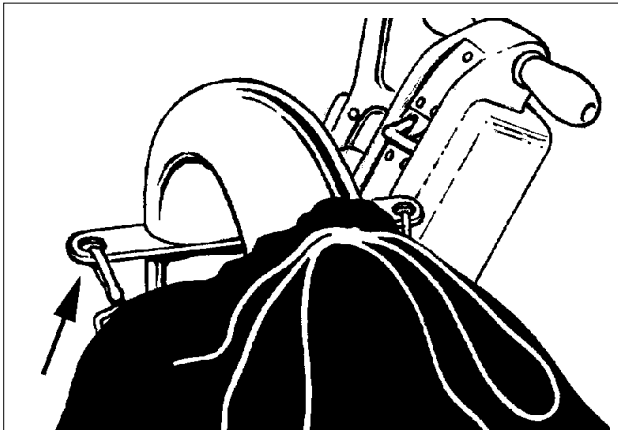

Figure 9
3. Clip the dust bag to the elbow. (See figure 9) Cross the strings on the dust bag and draw tight over the flare on the elbow. Wrap the string around the elbow and secure.